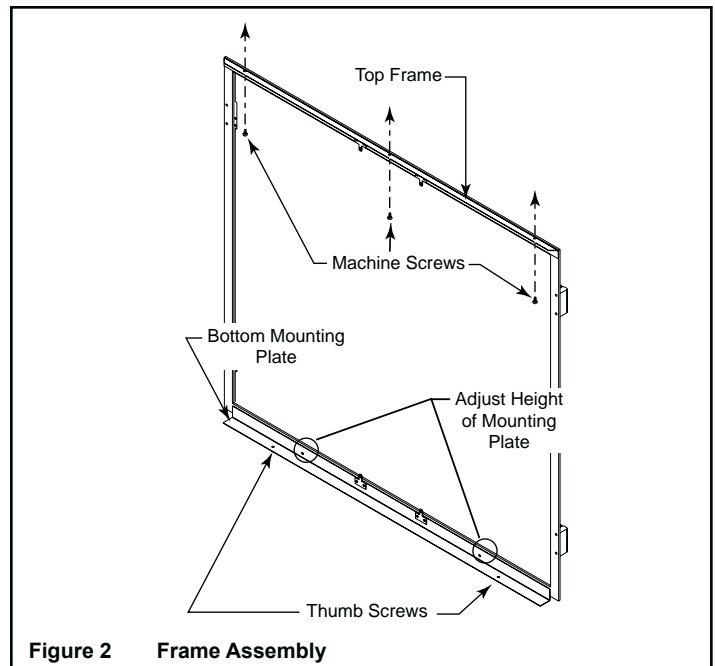

Figure 2 Frame Assembly
- Attach the top of the frame to the fireplace with the three machine screws provided. Refer to Figure 2.
- If the bottom mounting plate is not sitting flush on the hearth stone, loosen but do not remove the two nuts (one at each end) indicated in Figure 2.